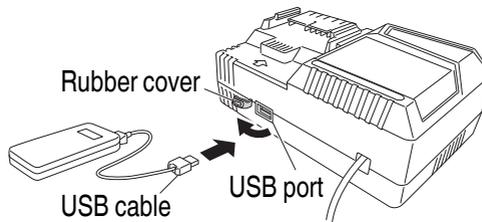

Fig. 14
(2) Connect the USB cable. (**Fig. 14**)